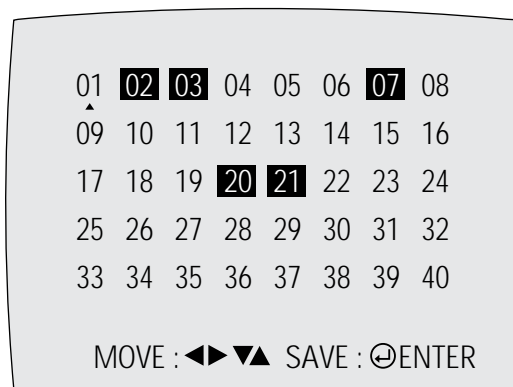

Fig.3-3
- 2) Press the “1, 4” button on the remote control. The option setting appears. (See Fig. 3-3)